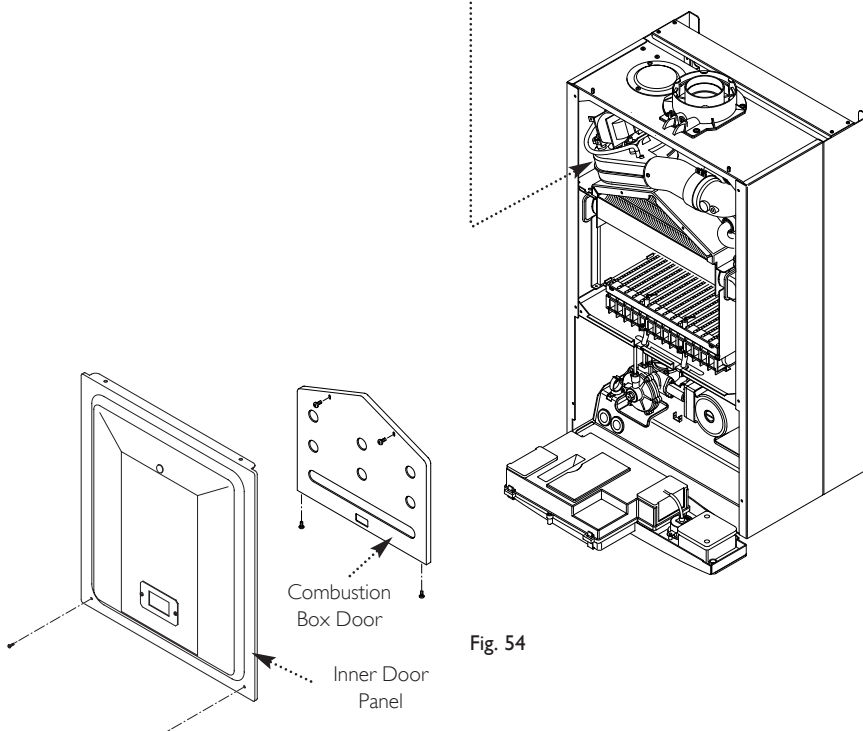

Fig. 54
6. Remove the screws securing the inner door panel. Lift the panel slightly to disengage it from the studs on top of the case (Fig. 54).
9. Remove the four screws securing the combustion box door and remove the door (Fig. 54).